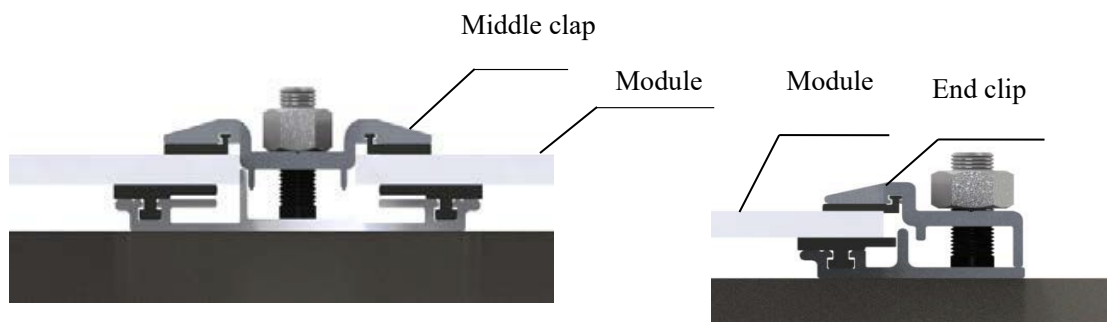

FIG 8 Clamp mounting method
SUNERGY Solar recommends the use of clamps which have an EPDM or similar insulating washer, as shown in FIG 8. and a bolt diameter of at least M8. The clamp must overlap the module edge by at least 14 mm.
- When using this type of clamp-mounting method, use at least four clamps on each module. Two clamps should be attached on each long side of the module (as shown in FIG 8).